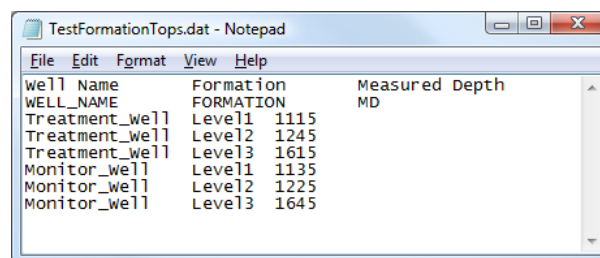

Figure 17-20: Example of a Formation Tops file. Each formation top is defined by a well name, the formation name and the measured depth in that well.
- Import Well Objects (formation Tops, packers, sleeves or plugs) using file formats similar to that shown in Figure 17-20 (note that one file can be used for many wells, but the well names used in the Frac Manager must be accurately described).